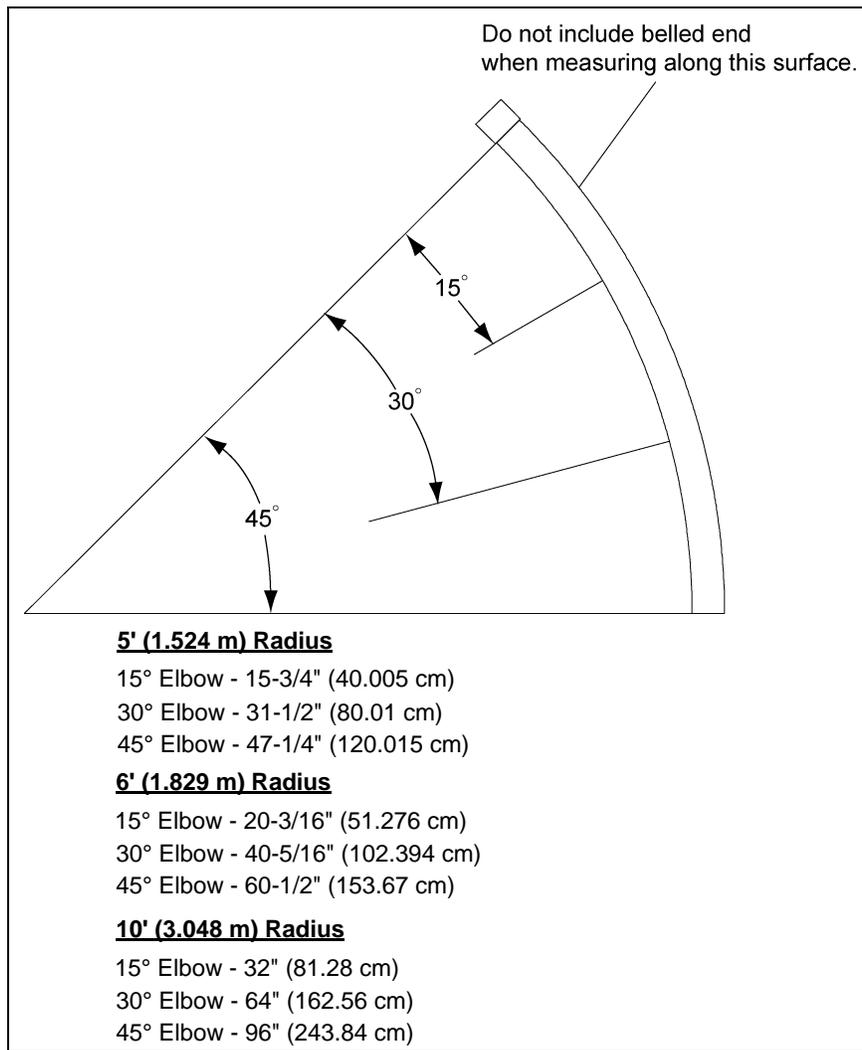

Figure 5K Cutting Chart for 45° Elbow
2. Slide the elbow tubing through the hole in the building. Establish and cut (if necessary) the elbow at the desired length to ensure that the auger tubing will be horizontal. See Figure 5K on Page 24 for proper cutting dimensions of the elbows at specific degree angles.